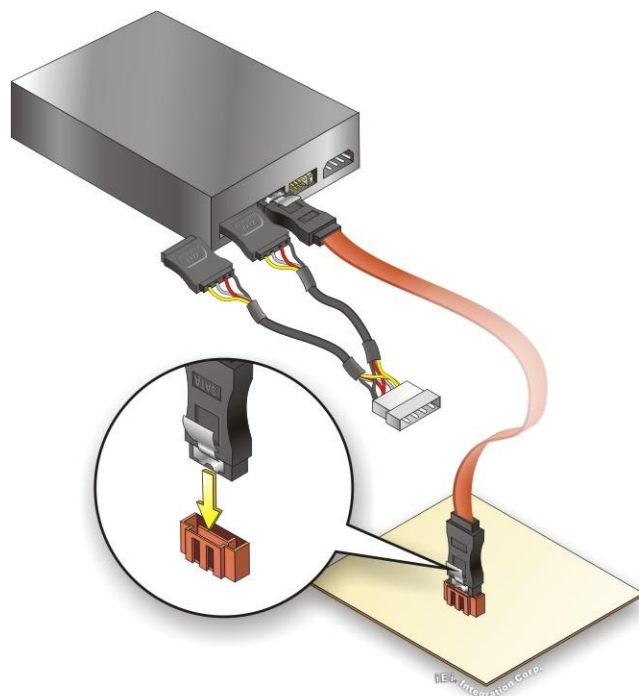

Figure 3-2: SATA Power Drive Connection
Step 3: Connect the cable to the SATA disk. Connect the connector on the other end of the cable to the connector at the back of the SATA drive. See **Figure 3-2**.
Step 4: Connect the SATA power cable. Connect the SATA power connector to the back of the SATA drive. See **Figure 3-2**.